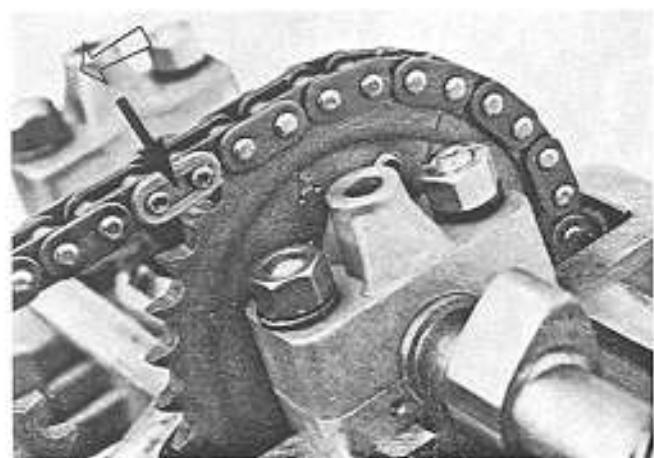

Fig. 28
- Join the two ends of the chain using a new connecting link and a new spring clip. Take care to locate the spring clip the right way round (see figure 28).